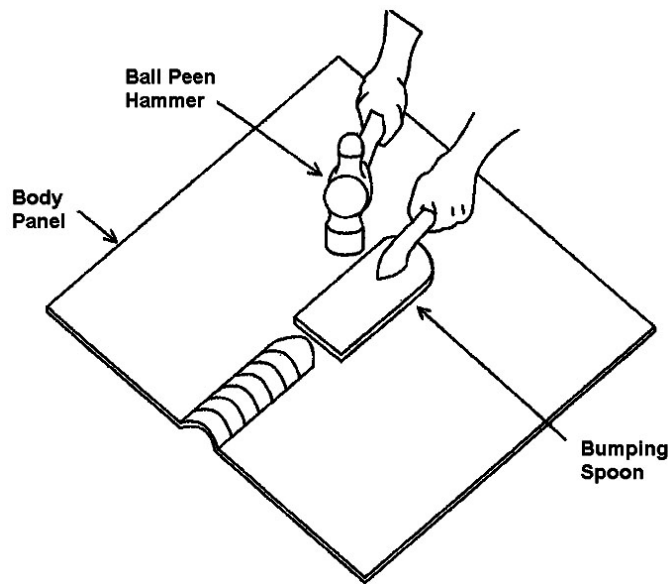

Figure 1-17. Using the bumping spoon.
2. Direct the hammer blow to the spoon as shown in figure 1-17.
As you can see in figure 1-17, the bumping spoon is placed between the hammer and the metal. As the hammer hits the spoon, the impact of the blow travels over the area of the spoon in contact with the metal. Use a ball-peen hammer for this work (*never use one of your good bumping hammers*). As you work, hold the handle of the spoon with a light grip so your hand will not resist the movement of the spoon when you strike it with the hammer. The shape of the bumping spoon crown determines its use.